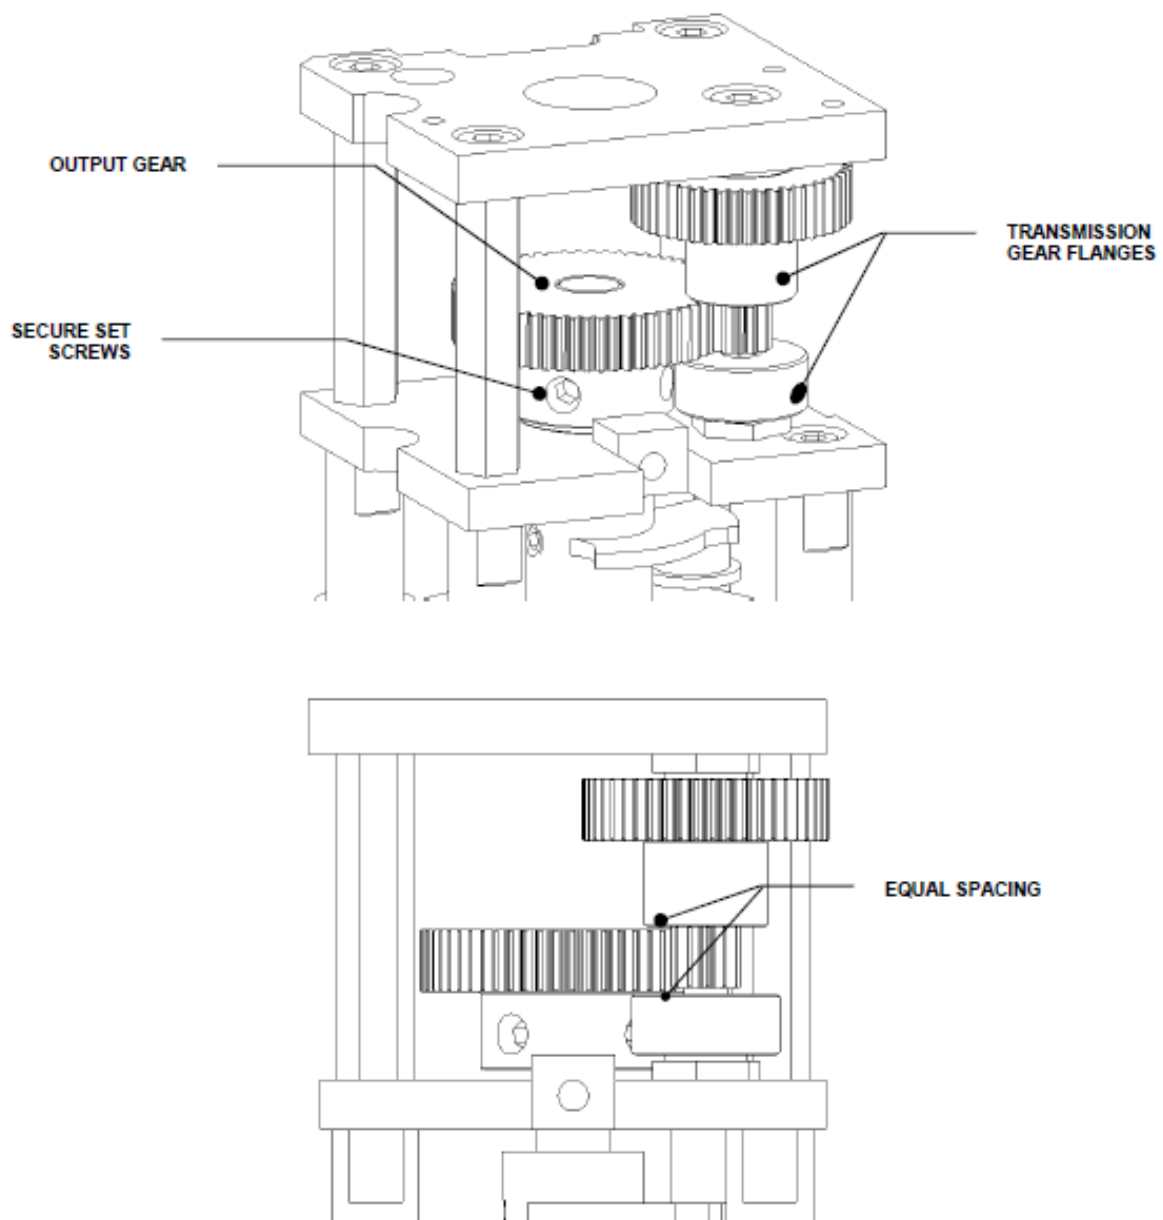

Figure R-13: Adjusting the Output Gear
5. Adjust the Output Gear so that it is centrally positioned in between the transmission gear flanges. Ensure that there equal spacing between the output gear and both flanges. Secure the Output Gear to the Rotator Bearing Shaft by tightening the set screw (Figure R-13).